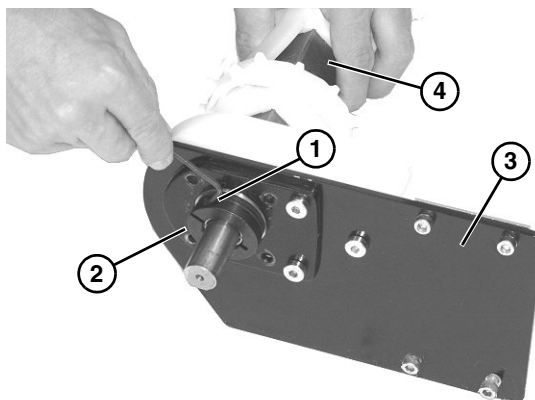

Figure 35
7. Loosen the bearing collar set screw (**Figure 35, item 1**) and remove bearing collar (**Figure 35, item 2**).
8. Remove plate (**Figure 35, item 3**) from drive spindle (**Figure 35, item 4**).